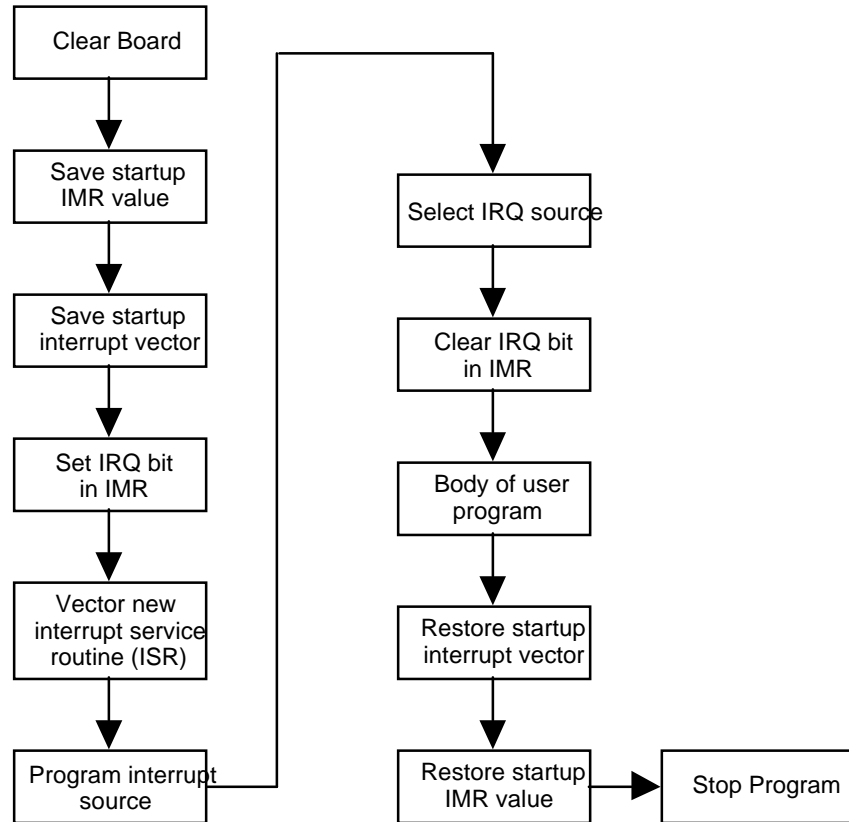

Fig. 4-10 — Interrupts Flow Diagram
• **Interrupts Flow Diagram (Figure 4-10)**